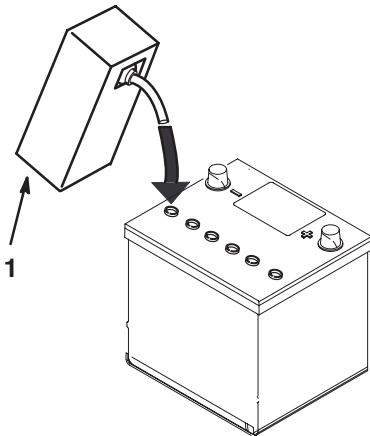

Figure 5
- Allow approximately 20 to 30 minutes for the electrolyte to soak into the plates. Refill as necessary to bring the electrolyte to within about 1/4 inch (6 mm) of the bottom of the fill well (Fig. 5).